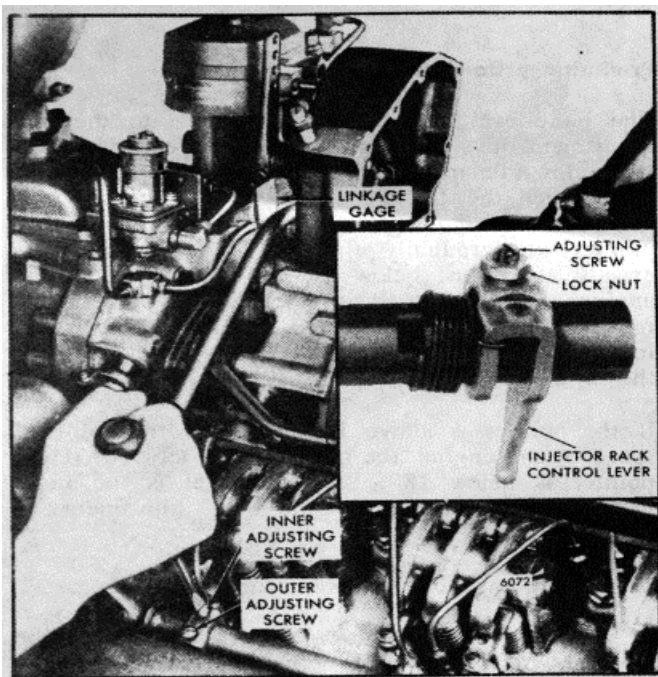

Fig. 5. - Positioning No. 4R Injector Rack Control Lever
5. Adjust the No. 4R injector rack by tightening the adjusting screw until the injector rack clevis is observed to roll up or an increase in effort to turn the screwdriver is noted (Fig. 5). Tighten the screw approximately 1/8 of a turn more and lock securely with the adjusting screw locknut. This will place the No. 4R injector rack in the full-fuel position.